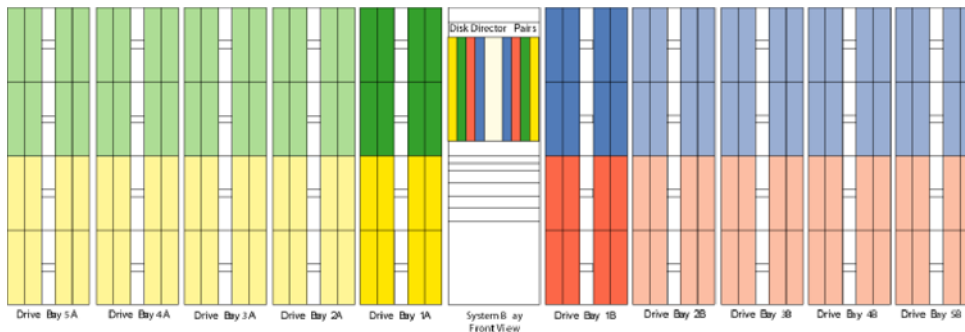

Figure 5. Scaling concept using different DA pairs
Figure 5 shows the scaling concept and use of in-the-box tiered storage. The color coding shows the different disk adapter (DA) pairs that “direct connect” to DAEs in adjacent storage bays and then they in turn “daisy chain” to DAEs in outer storage bays. Each DA pair supports 120 to 480 physical drives via eight Fibre Channel loops. Each loop contains from 15 to 60+ drives. Starting with the yellow DA pair shown in Figure 5, the adjacent cabinet can be direct connected with fibre cable. Subsequent storage bays can be daisy chain connected as shown in the lighter color. Depending on the applications and capacity and performance needed, the number of drives, type of drives, and number of DA pairs can be varied. Additional drives and performance can be realized by an additional DA pair, shown in green in Figure 5. It’s best to scale the drives one way and then add DA pairs to scale on the other side.